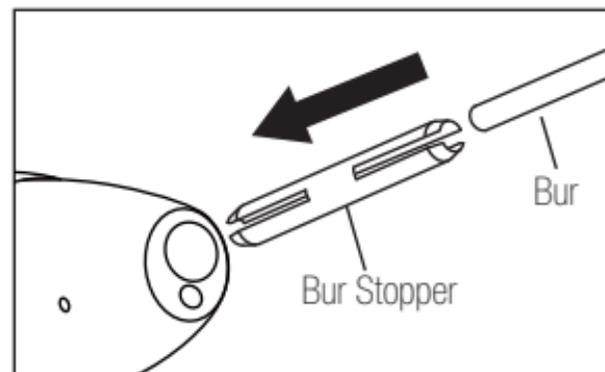

Fig. 2
- 2) Insert the supplied bur stopper into the chuck. (Fig. 2)